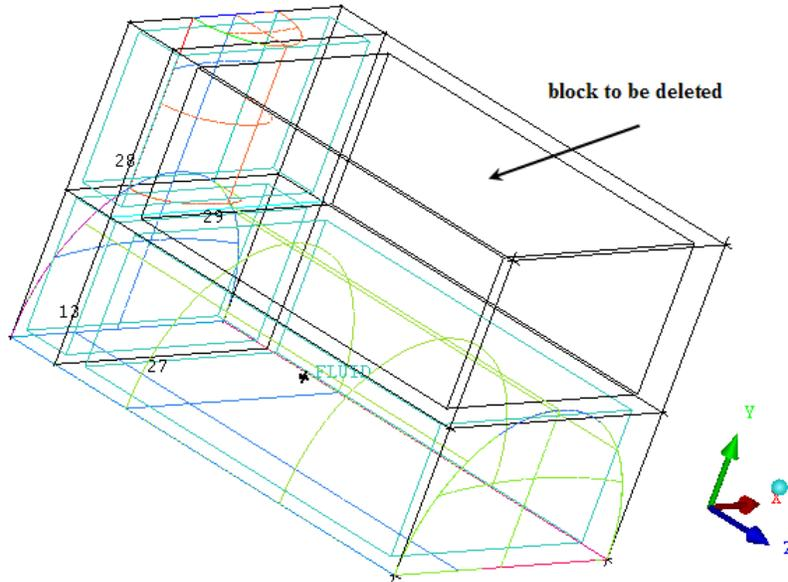

Figure 6: Block to be Deleted
- (a) Click  (Select block(s)), select the block to be deleted as shown in Figure 6.